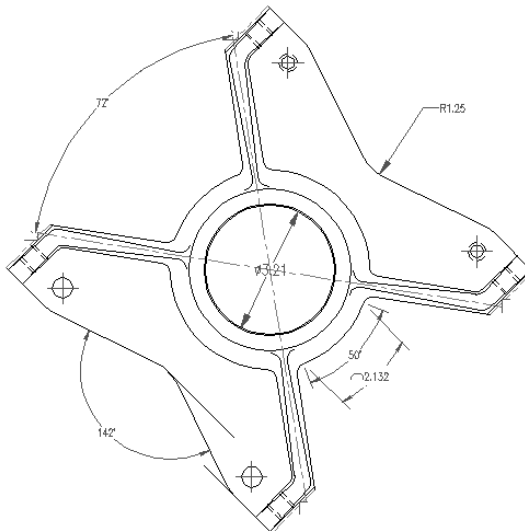

**Figure 14-19:** The bearing housing with center marks, radial and diameter dimensions, arc length, and angular dimensions.
10. Save your drawing. It should look like Figure 14-19.